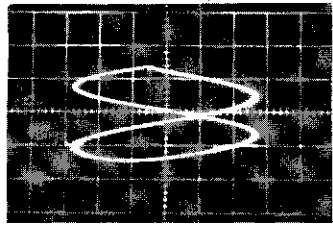

Figure 19
- (3) Press the lowest C key on the keyboard (first key) and adjust low end trimmer R21 for the Lissajous pattern shown in figure 19 indicating that the VCO is exactly half of the reference frequency.
- (11) Lower the keyboard an octave and check the traces of the intermediate C's against figures 19 and 20. NOTE: It is possible that there will be slight non-linearities in the response of the VCO that cause the intermediate C's to differ slightly as the pitch control is changed. For either of these C's it may be necessary to "split the difference" for optimum performance. Remember that you are seeing very small changes in frequency when using Lissajous patterns. In figure 19, for example, a complete rotation of the pattern every second corresponds to 1/2 cycle per second difference between the VCO and reference frequencies.